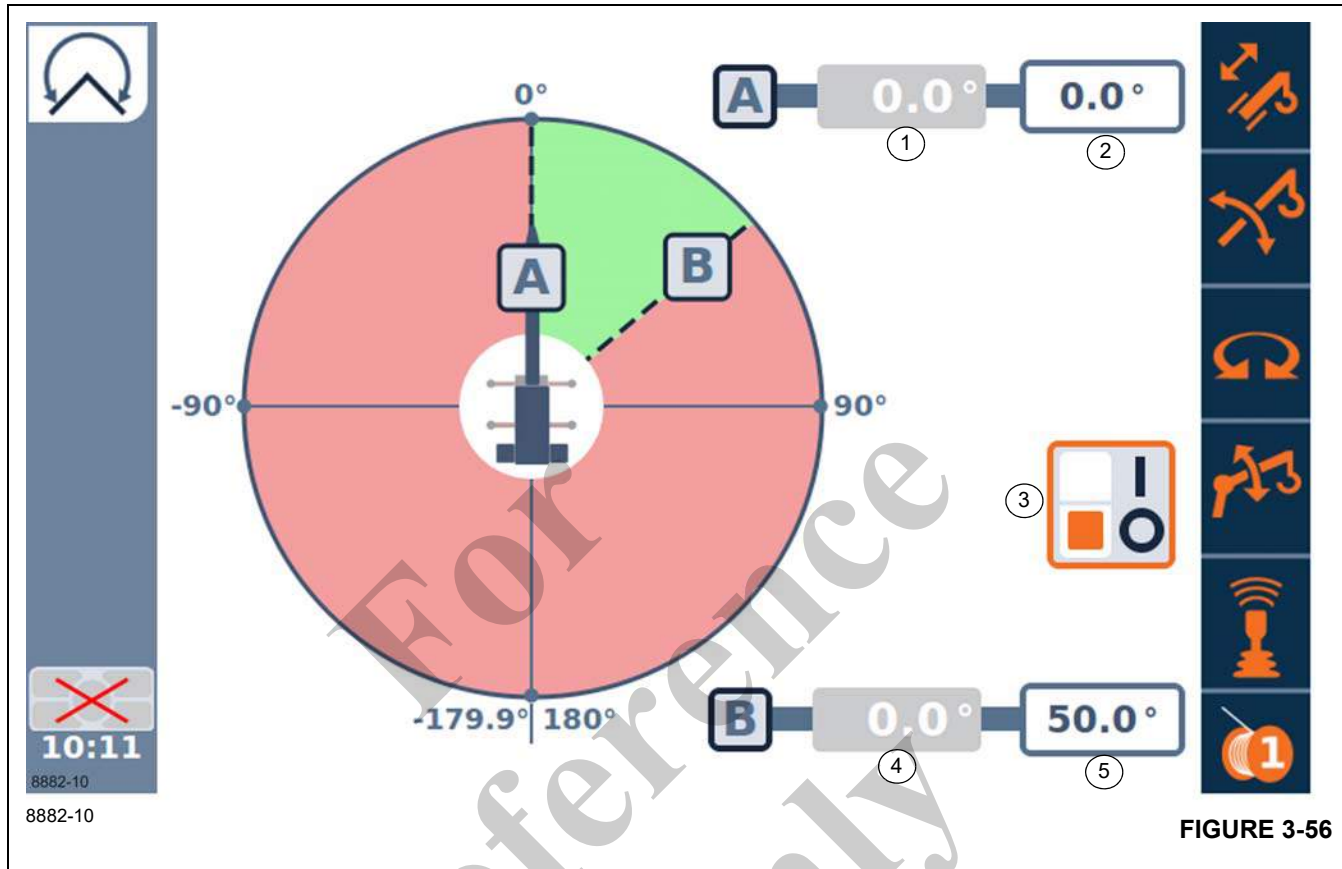

FIGURE 3-56
2. Select the Swing Angle Screen (Figure 3-56) on the Main Menu Screen.
3. Use the Right Arrow function to highlight the switch symbol (3).
5. Use the Right Arrow function to highlight the current swing left position (1). Use an OK button to accept the current crane position to be the limitation value. The limitation value for swing left should now be updated on the screen. Note that the boom is now at the limitation, so alarms will sound. The boom can now be moved away from the current swing angle to cease the alarm.
7. Use the Right Arrow function to highlight the current swing right crane position symbol (4). Use an OK button to accept the current crane position to be the limitation value. The limitation value for swing right should now be updated on the screen. Again, note that the boom is now at the limitation, so alarms will sound. The boom can now be moved away from the current swing angle to cease the alarm.
1. Select the Swing Angle Menu screen (Figure 3-56) on the Main Menu Screen.
2. Use the Right Arrow function to highlight the Switch symbol (3).
4. Use the Right Arrow function to highlight the maximum swing angle A Value (2). Use an OK button to begin entering the value. Use the Up Arrow or the Down Arrow or jog dial to change the value (in tenths) to the desired swing angle value. Use an OK button to finish entering the value. Note that the boom may now be at the limitation (depending on the value entered), so alarms
1. Select the Swing Limitation Screen (Figure 3-56) on the Main Menu Screen.